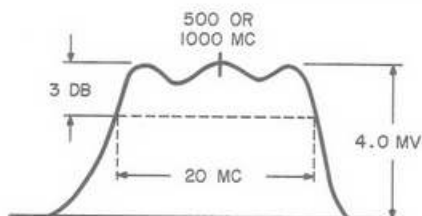

Figure 5-11. 490-1000 MC RF Tuner Response Waveform at CRI.
- q. Fine tune the RF tuner until the 750 mc marker is centered on the response waveform. The waveform should have the characteristics illustrated in Figure 5-11. Incorrect response can not be corrected in the field. Do not attempt alignment of the preselector. Return the tuner to the factory or proper facility for realignment. Rotate the tuning crank over the tuning range stopping at a point at which the RF response is relatively flat and the traveling marker "birdie" is within 3.3 mc of either skirt of the response.